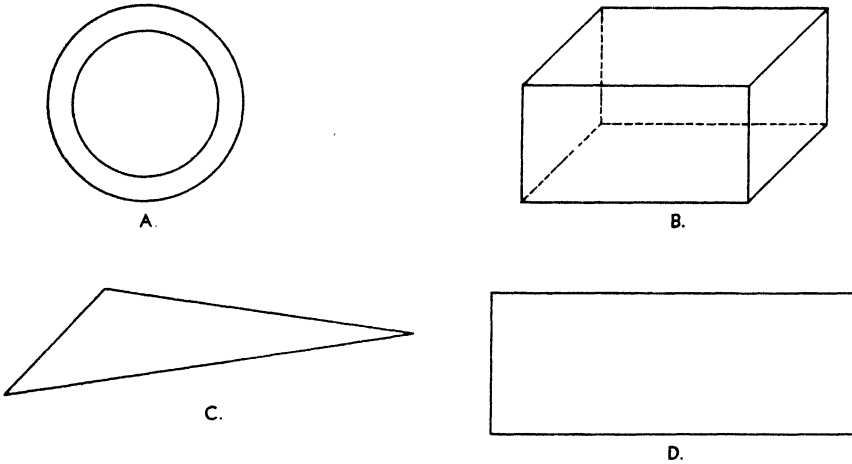

FIG. 79. CENTER OF GRAVITY BY GEOMETRY.
3. Locate, by geometry, the center of gravity of the figures found in Fig. 79.